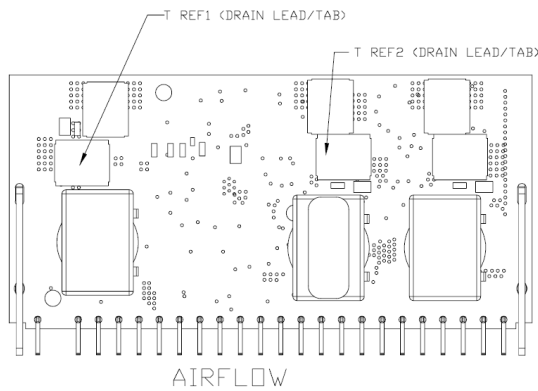

Figure 45. Temperature measurement locations  $T_{ref1}$  and  $T_{ref2}$ .
The thermal reference points,  $T_{ref1}$  and  $T_{ref2}$  used in the specifications are shown in Figure 45. For reliable operation this temperatures should not exceed 120 °C.